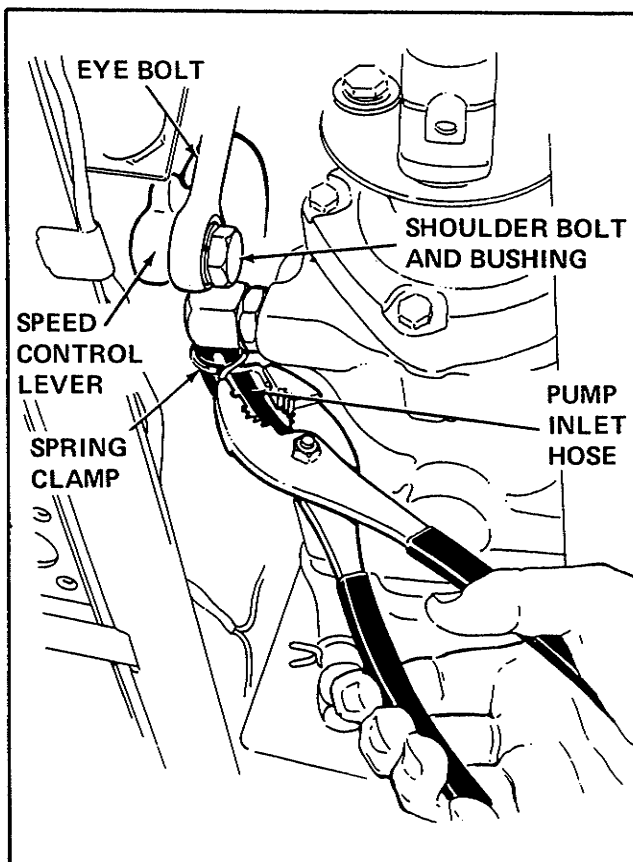

Figure 111. Disconnecting Pump Inlet Hose and Speed Control Lever
4. Disconnect pump inlet hose from transmission fitting. See Figure 111. Remove shoulder bolt and bushing which attach eye bolt to speed control lever.